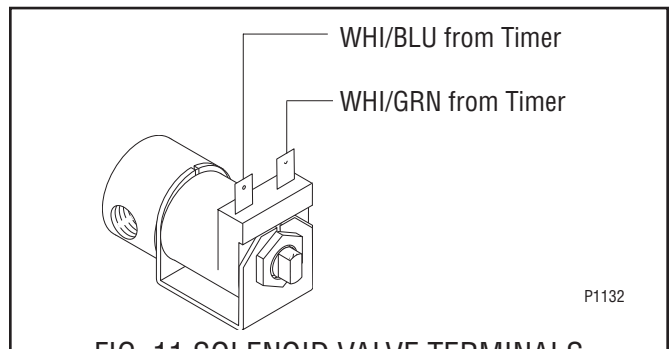

FIG. 11 SOLENOID VALVE TERMINALS
9. Refer to Fig. 11 when reconnecting the wires.